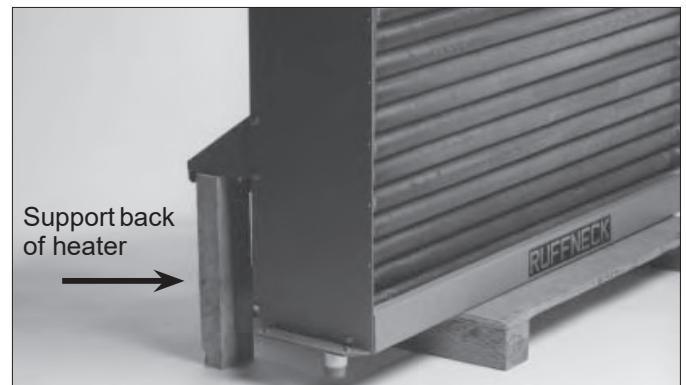

Figure 13
6. With the cabinet side removed and motor mount supported, slide heat exchanger out of the cabinet. (see Figure 13). On larger units, assistance may be necessary due to the weight of the heat exchanger.
3. Remove the top cabinet panel by removing the four bolts in the corners of the top panel and the fasteners along the top of the shrouds (see Figure 13).
4. Have an assistant support the weight of the heat exchanger while removing the eight bolts that fasten the heat exchanger to the cabinet (see Figure 14). Once the bolts on one side are removed, lower that side of the heat exchanger to rest on the bottom of the cabinet. Place a support under the motor mount of the cabinet to prevent the cabinet from rolling over during heat exchanger removal (see Figure 13).